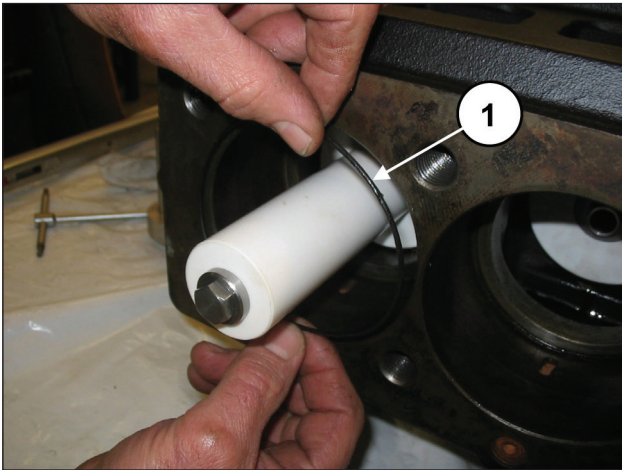
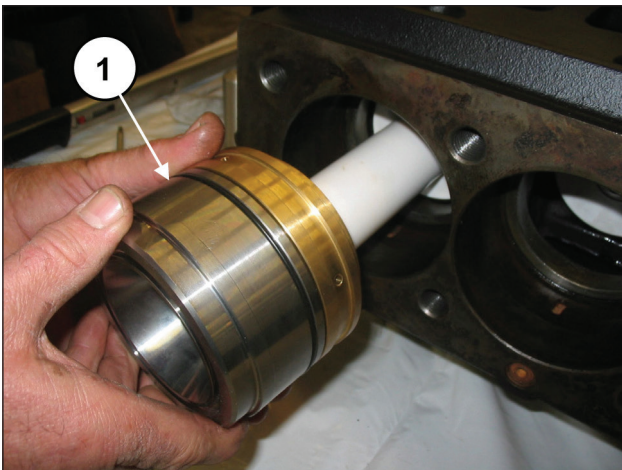

Fig. 149
Fig. 150
Insert the O-ring inside the pump casing (pos. ①, Fig. 149) and then the previously-assembled liner-seal support block (complete with the same O-ring) to end stroke (pos. ①, Fig. 150).